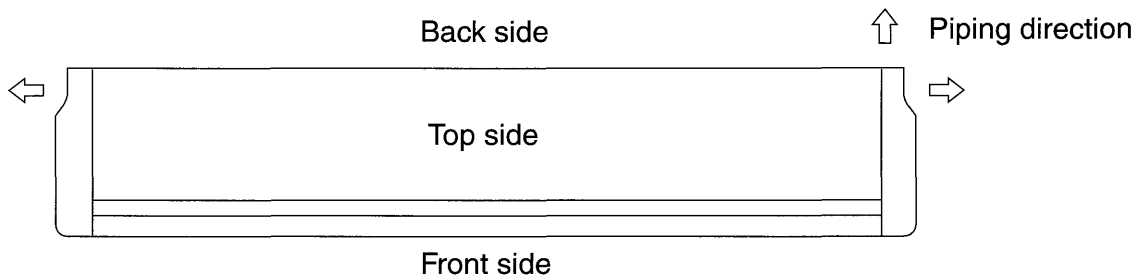

Fig. 2
- Piping can be led out from the left, right or rear sides. (Refer to Fig. 2)